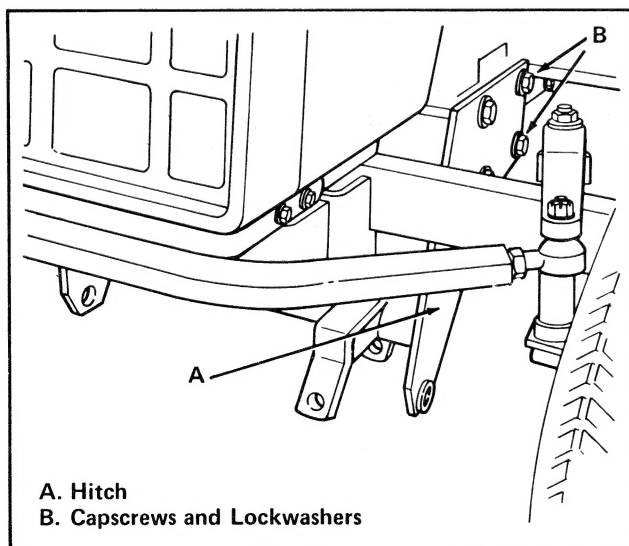
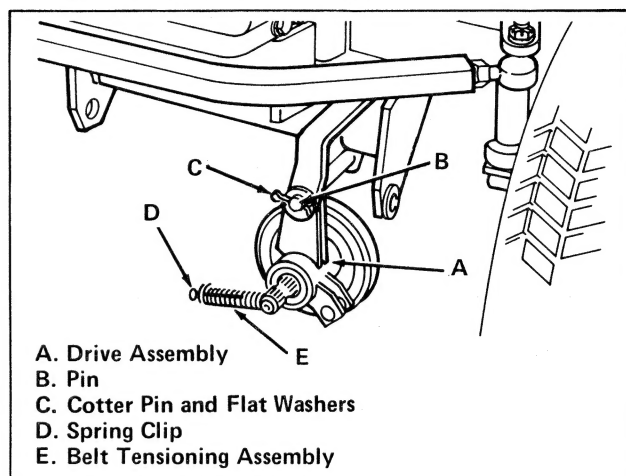
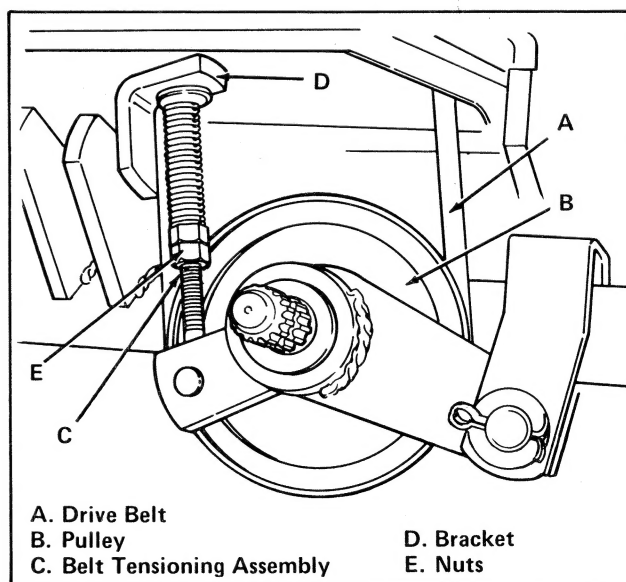
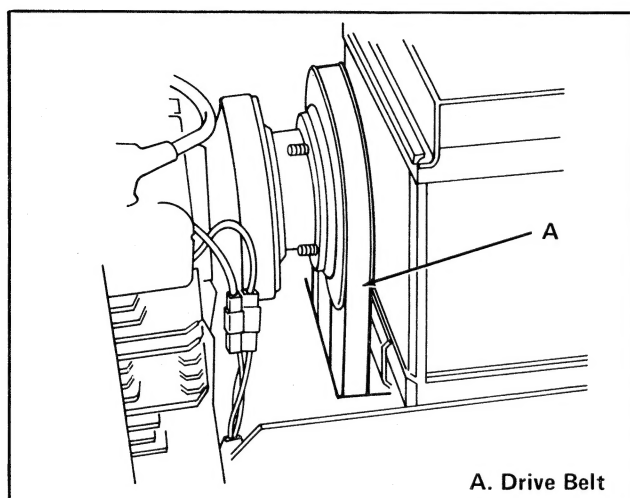

Figure 1. Install Front Hitch
Figure 2. Snow Thrower Drive Assembly
Figure 3. Belt Tensioning Assembly
Figure 4. Install Drive Belt
1. Install front hitch assembly (item A, figure 1) with capscrews and lockwashers (item B). Turn front wheels to the left to install upper right hand capscrews. Securely tighten capscrews on both sides of tractor frame. If the snow thrower drive assembly (item A, figure 2) is already installed, it need not be removed.
3. Place drive belt (item A, figure 3) around pulley (item B). Remove spring clip (item D, figure 2) from the belt tensioning assembly (item E). Install belt tensioning assembly (item C, figure 3.) through the hole in bracket (item D).
4. Install spring clip removed earlier (item D, figure 2) through the hole in tensioning assembly (item C, figure 3) above (bracket item D).
5. Raise the tractor hood and install drive belt (item A, figure 4) over the PTO pulley. It may be necessary to loosen the belt tightening assembly by turning two nuts (item E, figure 3).
10. If desired to remove front drive assemblies, loosen two belt tension adjusting nuts (item E, figure 3) to release tension on drive belt.
11. Remove drive belt (item A, figure 4) from the engine PTO pulley.
12. Remove drive assembly (item A, figure 2) from the hitch assembly by removing cotter pin and pin.
13. If desired, remove eight capscrews (item B, figure 1) to remove tractor hitch.